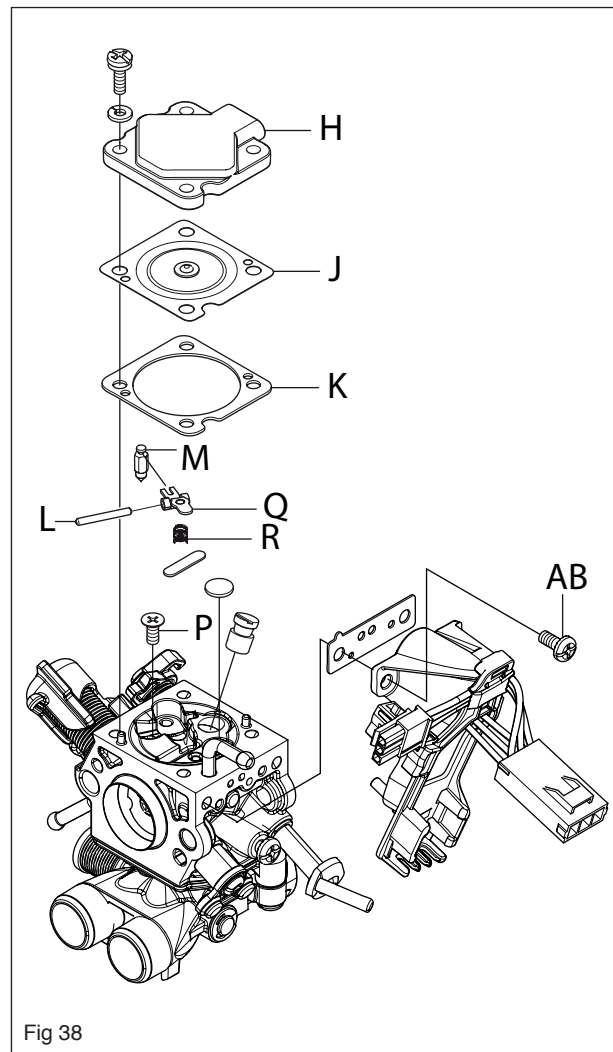

Fig 38
If necessary, dismantle the AutoTune AB unit. See figure 38.
3. That the needle valve M and its lever arm Q are not worn. See figure 38.
3. Fit the gasket X in the carburetor as well as the holder Y. Screw in place screw Z as outlined in figure 38.